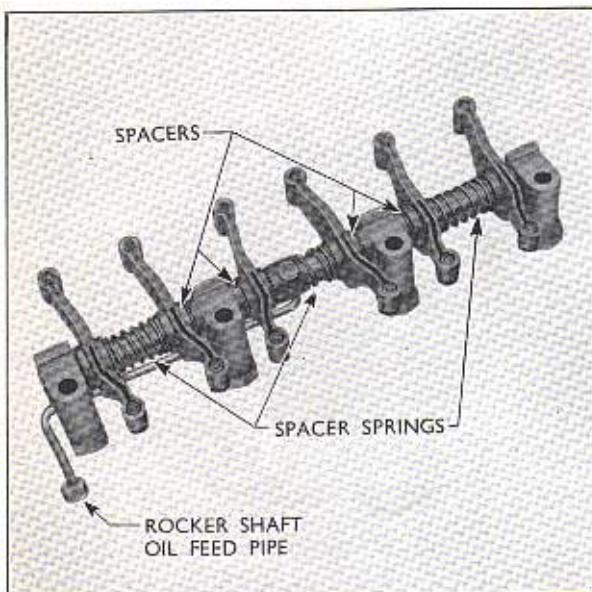

Fig. 1
1. Fit the support brackets, spacer springs, spacers, rocker arms and the oil feed pipe in their correct order, as shown in Fig. 1, taking care to ensure that the stud holes in the rocker shaft support brackets are on the left when viewing the rocker shaft from the front. (Opposite end to the oil feed pipe). The rocker arms are right- and left-handed and should be fitted with their "sets" positioned as shown in Fig. 1.